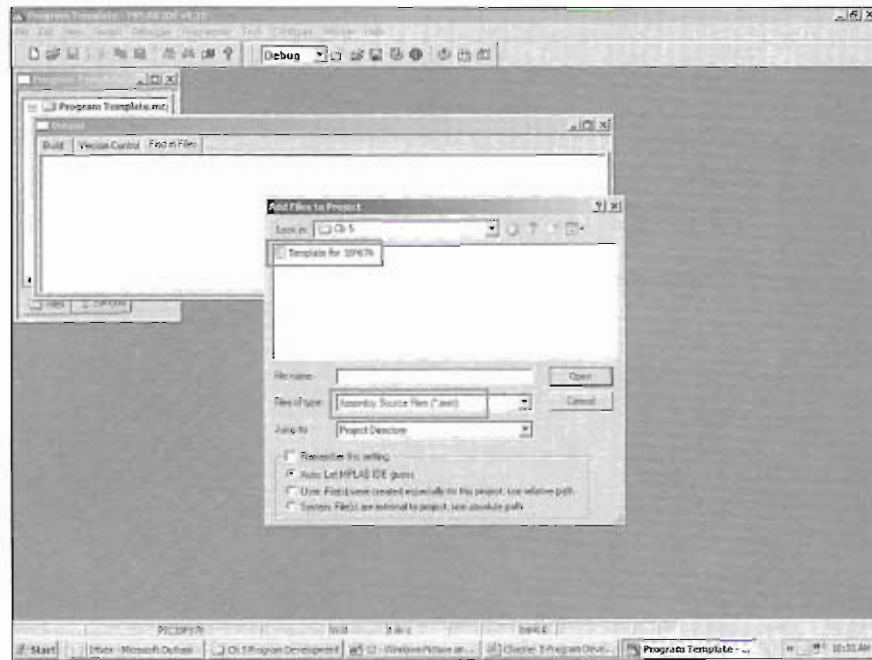

Figure 5-12 — Add this file to the project by clicking on PROJECT/ADD FILES TO PROJECT.
Step 8. You will next add the template file that is included on the CD ROM that accompanies this text. This template file is where the actual code of your program will be written. Insert the CD into the drive. Navigate through the directory of this CD to the file folder labeled **Program Files/Ch 5 Program**. Within that folder you will find a file named **TEMPLATE FOR THE P16F676.ASM** File. Copy this file and place the copy of the file into the project working directory on your C drive that you created in Step 1 (**C:\PIC Programming\Ch 5**). If you would like, now is the time to rename this file to a more descriptive name. You may want to do this in future programs that you develop using this template. In this exercise the file name **Template 16F676** is appropriate. Once the template file is installed in the project working directory, add this file to the project by clicking on **PROJECT/ADD FILES TO PROJECT** on the menu bar (Figure 5-12). Navigate to the **PIC Programming/Ch 5** directory and select the **TEMPLATE FOR THE P16F676.ASM** file.